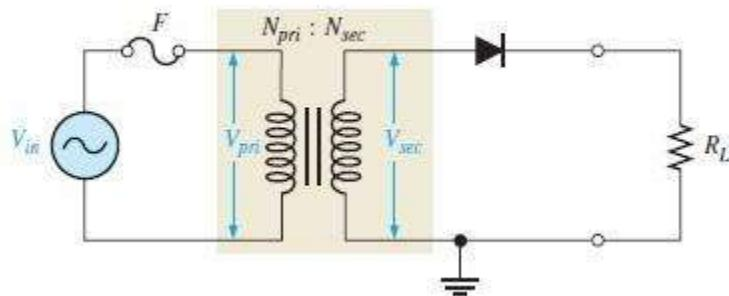
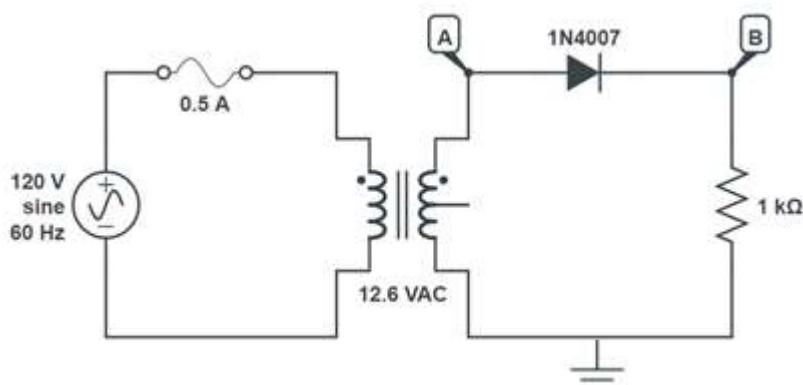

Fig. 15 Half wave rectifier with transformer
FIGURE 2-1: Schematic diagram of Half-wave rectifier circuit
- Figure 15 is similar to the schematic circuit given in Experiment 2, Figure 2-1 (a).
- Figure 16 is similar to the schematic diagram shown in experiment 2 Figure2-1(b).
1. Wire the half-wave rectifier circuit shown in Figure 2-1, paying careful attention to the polarity of the 1N4007 diode. You should be very careful to make sure that your connections to the 120-V primary of the transformer are properly protected so that you will not get a shock by accidentally touching them. Furthermore, you should have a $\frac{1}{2}$ -A fuse on the primary side of the transformer. Note that neither of the transformer's primary leads are grounded, while the center-tapped secondary lead is not used in this section!
1. For an input frequency of 60 Hz, approximately what is the period of the half wave rectifier circuit shown in Figure 2-1? Explain your answer.
2. For the half-wave rectifier of figure 2-1, why is the frequency of the input cycle the same as the frequency of the output cycle even though there is a zero amplitude for half of the cycle?